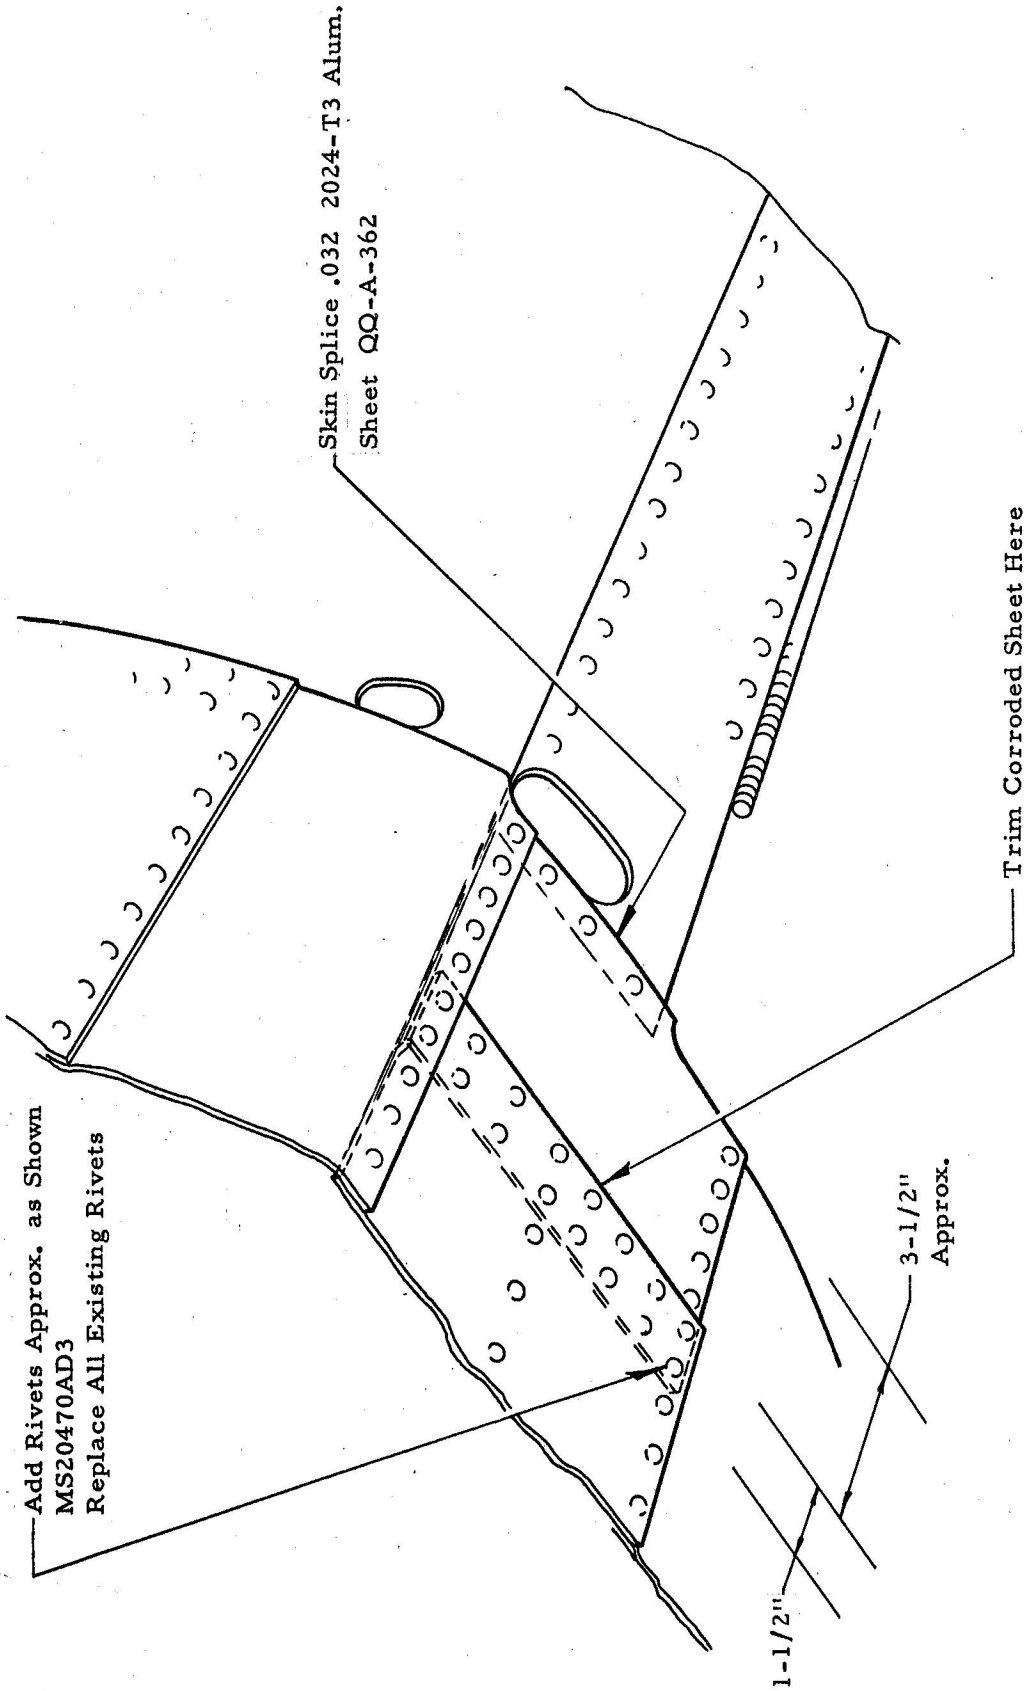

Figure 1
- 5 Cut-out corroded skin and install a skin repair as shown in Figures 1 and 2. Fabricate new reinforcing plate to sample and install as noted in para. 3 above. In addition it is recommended that the bottom fuselage skin between bulkhead 9 and 13 be cleaned and clear lacquer 33A/8010-21-106-6042 applied.